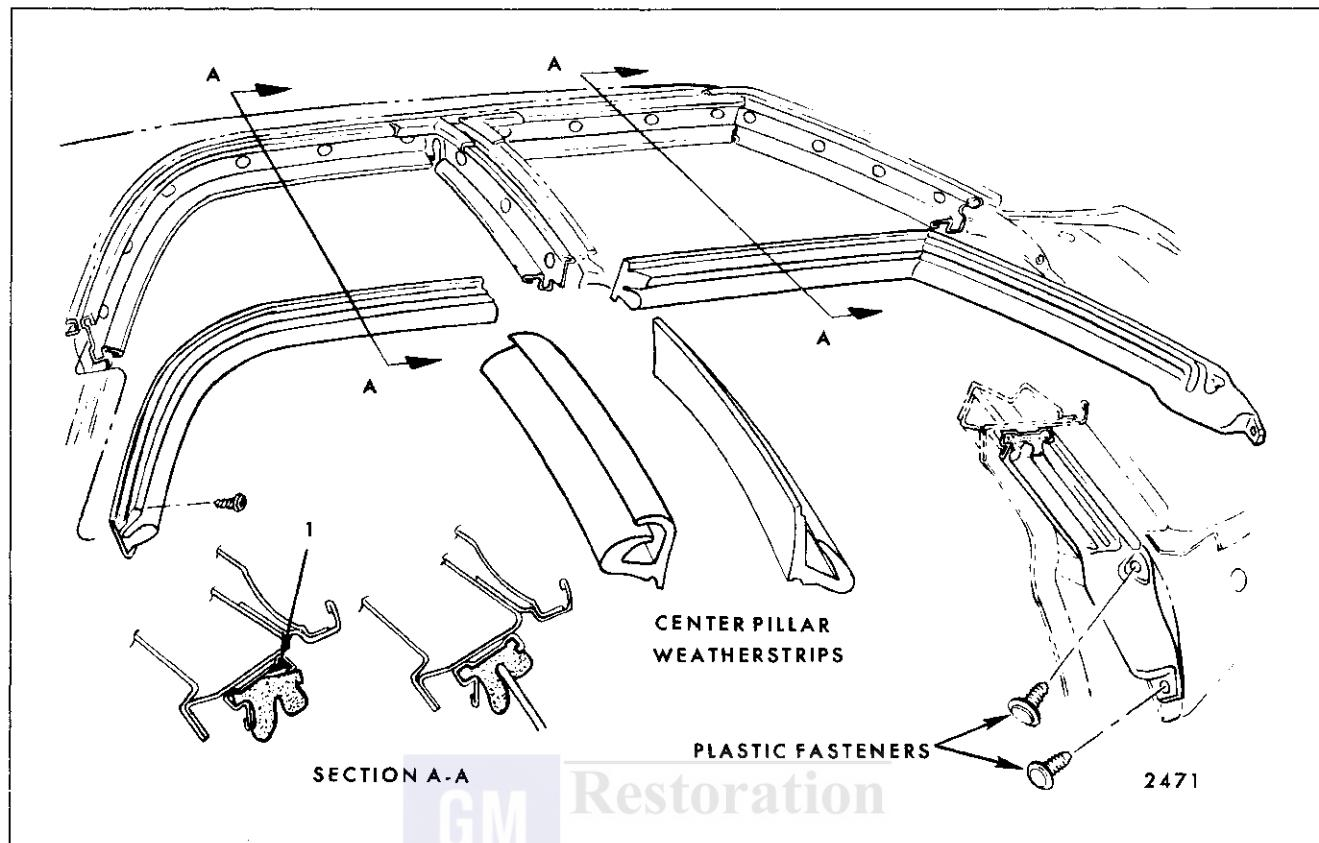

Fig. 6-9—Side Roof Rail and Center Pillar Weatherstrips — "C-69" Styles
1. Remove plastic fasteners at front of weatherstrip similar to those shown in Figure 6-9.